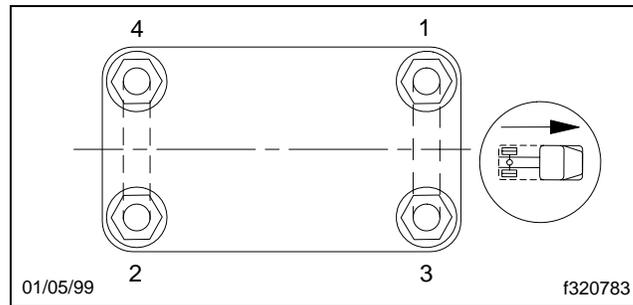

Fig. 4, U-Bolt Nut Tightening Sequence
- 21.3 Replace the second U-bolt on the left side, and evenly tighten the U-bolts 60 lbf ft (81 N m) in the sequence shown in **Fig. 4**.